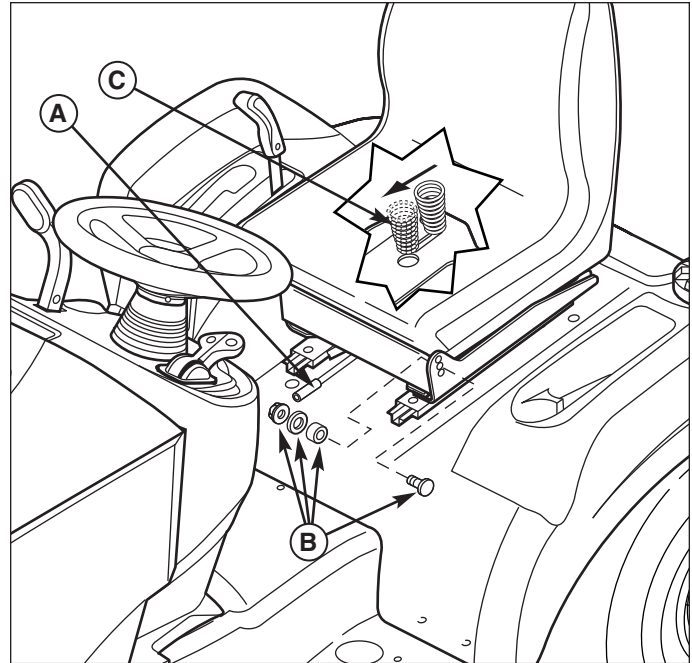

Figure 26. Seat Adjustment
The pitch of the seat can be adjusted to one of three positions. To adjust, remove the carriage bolts, spacers, washers, and nuts (B, Figure 26) from the hinge and reinstall them in the desired holes.
The seat can also be adjusted forward and back. Move the lever (A, Figure 26), position the seat as desired, and release the lever to lock the seat into position.
The seat springs (C, Figure 26) can be adjusted to provide a softer or firmer ride. Tilt the seat forward and slide the spring assembly (C) forward for a softer ride, and back for a firmer ride.